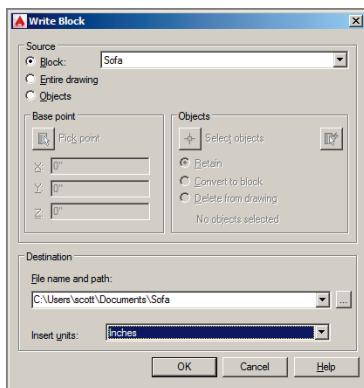

FIGURE 9.1 Writing a block to a file
1. Type `W` (for Write block), and press Enter. Select the Block radio button in the Source area of the Write Block dialog box. Select Sofa from the Block drop-down. Select Inches (or Centimeters for metric) from the Insert Units drop-down in the Destination area (see Figure 9.1). Click OK, and the geometry within the Sofa block definition is written to `Sofa.dwg`.